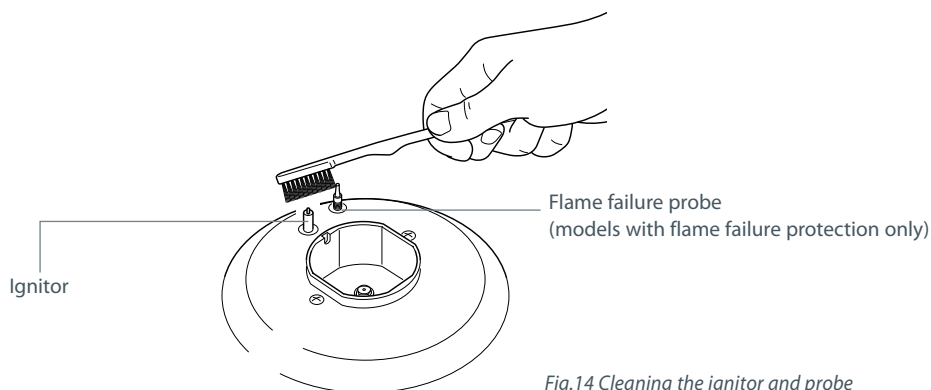

Fig.14 Cleaning the ignitor and probe
- the ignitors are sparking. If they are not sparking, they may be dirty or wet. Clean them with a toothbrush and methylated spirits, as shown in Fig. 14 below. See 'Care and cleaning' for instructions on removing and replacing the burner parts.